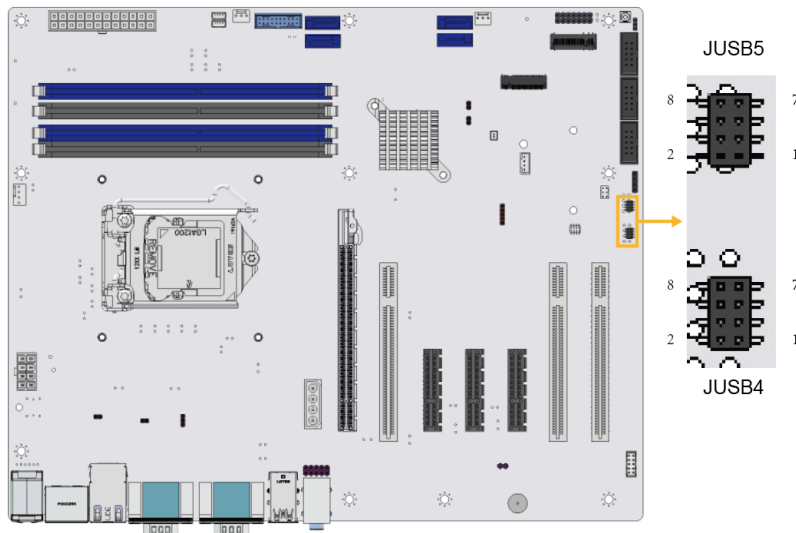

Figure 3-34: Internal USB 2.0 Connector Locations
- CN Location:** See **Figure 3-34**